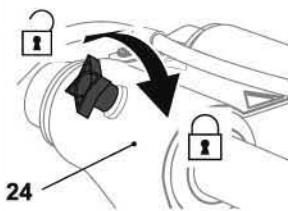

Fig. 19
1. Loosen the slide locking knob (24) to allow the cutting head to slide freely (Fig. 19).